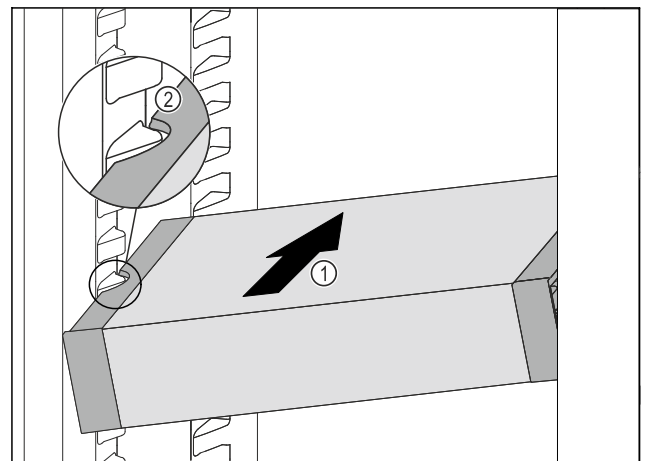

Fig. 87
- Insert the VarioSafe into the fridge section at an angle Fig. 87 (1) until the recesses in the side Fig. 87 (2) of the VarioSafe are at the level of the support rib in the fridge section.